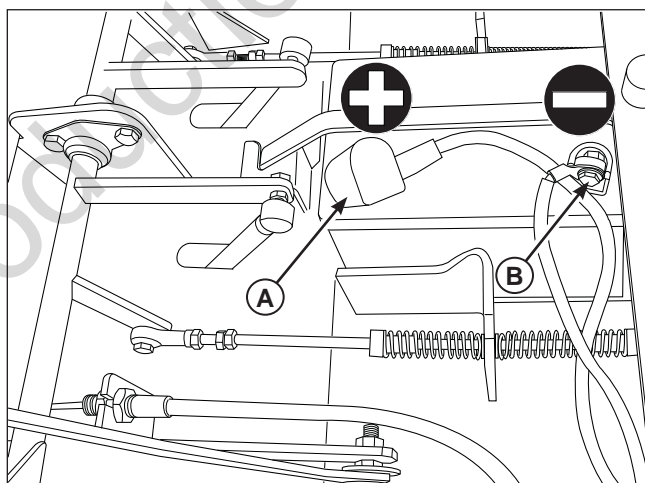

Figure 52. Battery Compartment
1. Disconnect the cables from the battery, negative (black) cable first (**B, Figure 52**).